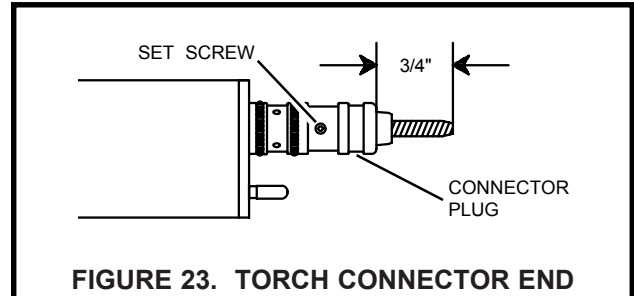

FIGURE 23. TORCH CONNECTOR END
4. Loosen set screw located on the connector end of the torch assembly (see fig. 23).
5. Tighten set screw. (Do not overtighten), refer to fig. 23.